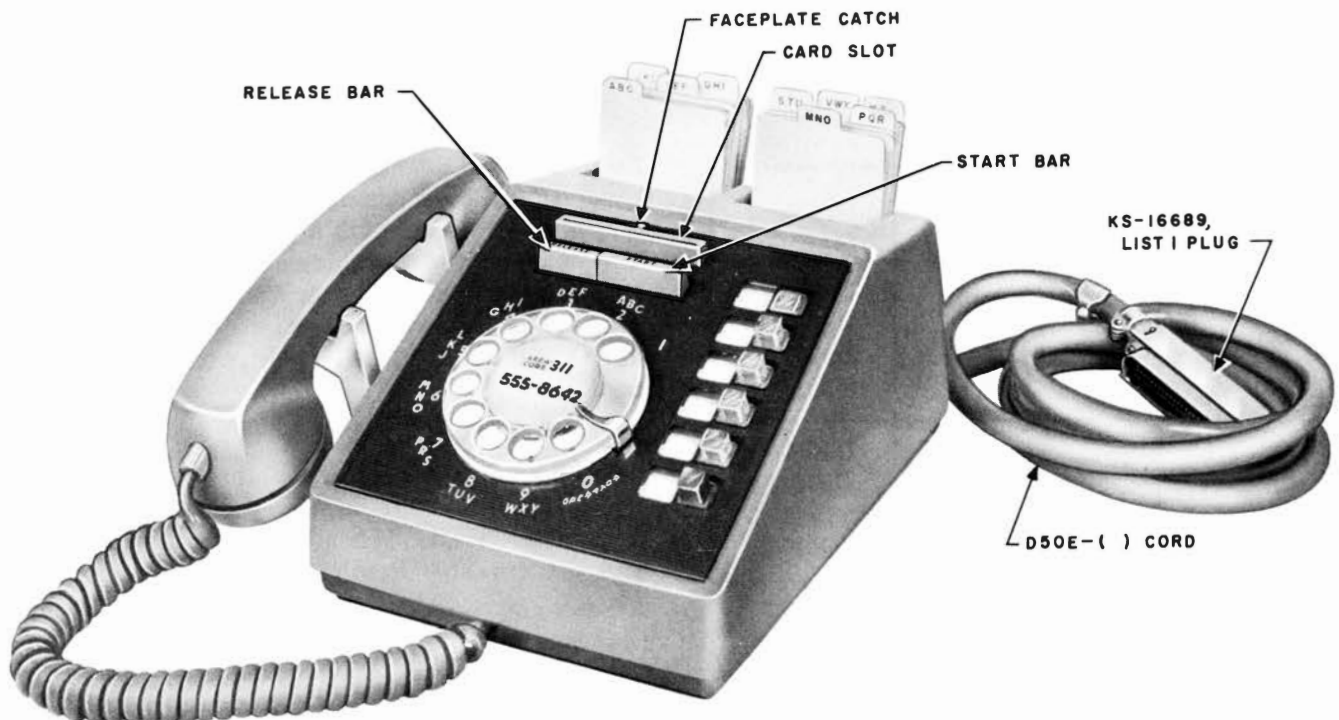

Fig. 1 — 661-Type Telephone Set
1.01 This section covers identification, operation, installation, maintenance, and connections for 661-type telephone set (Fig. 1 and 2).